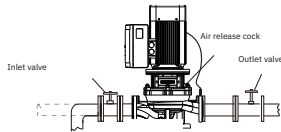

Figure 8. Valves for filling and venting
6. Tighten the vent cock as shown in Figure 8.
1. Close the inlet valve and unscrew the vent cock on the pump cover, as shown in Figure 8.